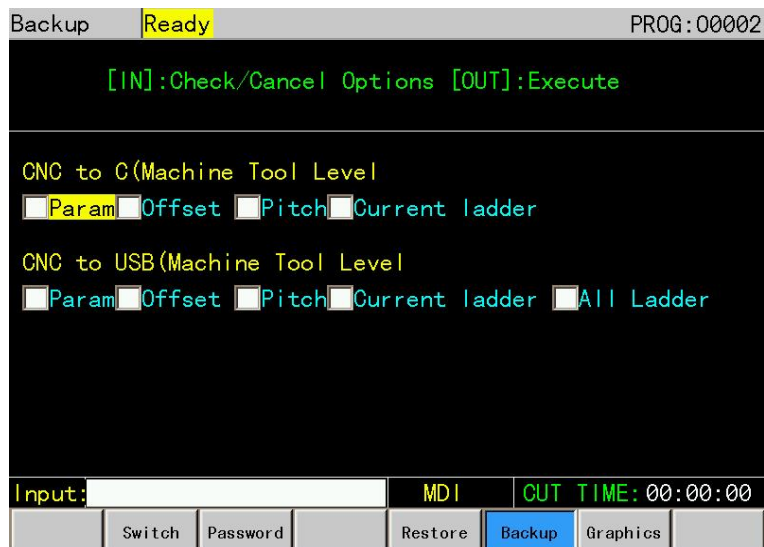

Figure 2-4-4-1
2.4.4 Data backup (See figure 2-4-4-1)